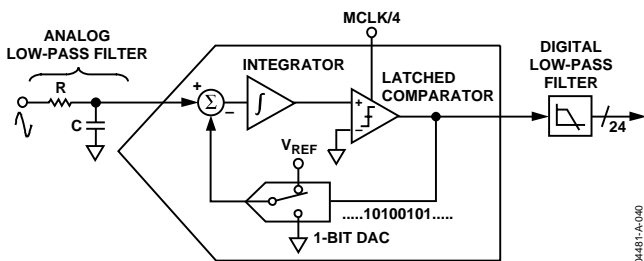
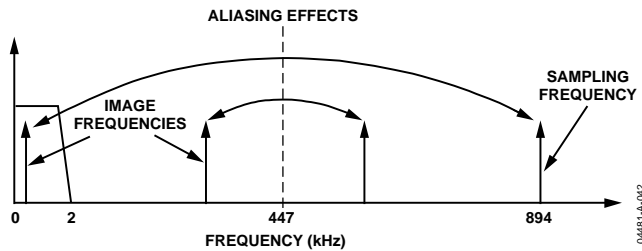

Figure 39. First-Order  $\Sigma$ - $\Delta$  ADC
Figure 41. ADC and Signal Processing in Channel 1 Outline Dimensions
The analog-to-digital conversion is carried out using two second-order  $\Sigma$ - $\Delta$  ADCs. For simplicity, the block diagram in Figure 39 shows a first-order  $\Sigma$ - $\Delta$  ADC. The converter comprises two parts: the  $\Sigma$ - $\Delta$  modulator and the digital low-pass filter.
Figure 39 also shows an analog low-pass filter (RC) on the input to the modulator. This filter prevents aliasing, which is an artifact of all sampled systems. Aliasing means that frequency components in the input signal to the ADC that are higher than half the sampling rate of the ADC appear in the sampled signal at a frequency below half the sampling rate. Figure 41 illustrates the effect. Frequency components (shown as arrows) above half the sampling frequency (also known as the Nyquist frequency, i.e., 447 kHz) are imaged or folded back down below 447 kHz. This happens with all ADCs, regardless of the architecture. In the example shown, only frequencies near the sampling frequency, i.e., 894 kHz, move into the band of interest for metering, i.e., 40 Hz to 2 kHz. This allows the use of a very simple LPF (low-pass filter) to attenuate high frequency (near 900 kHz) noise, and it prevents distortion in the band of interest. For conventional current sensors, a simple RC filter (single-pole LPF) with a corner frequency of 10 kHz produces an attenuation of approximately 40 dB at 894 kHz—see Figure 41. The 20 dB per decade attenuation is usually sufficient to eliminate the effects of aliasing for conventional current sensors; however, for a di/dt sensor such as a Rogowski coil, the sensor has a 20 dB per decade gain. This neutralizes the -20 dB per decade attenuation produced by one simple LPF. Therefore, when using a di/dt sensor, care should be taken to offset the 20 dB per decade gain. One simple approach is to cascade two RC filters to produce the -40 dB per decade attenuation.